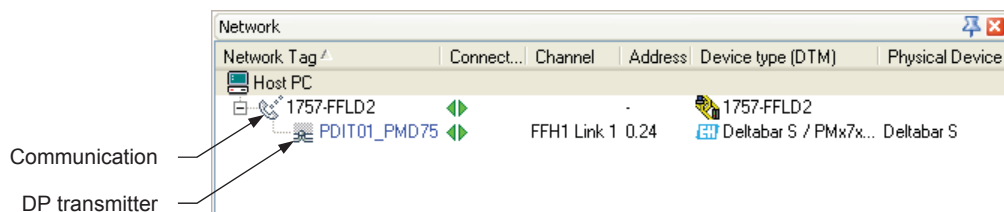

Figure 2-7. Network view.
6. After the device has been detected, *FieldCare* should automatically connect to the device, as indicated by the ◀▶ sign beside the valve in the **Network** view (Figure 2-7). Alternately, you can connect to the device via **Device Operation ▶ Connect**.